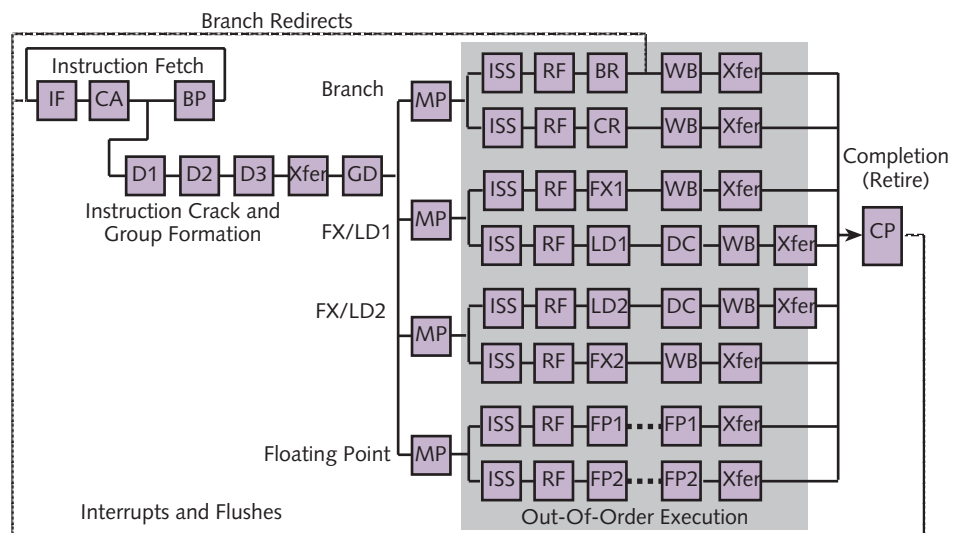

Figure 1. At MPF2000, Charles Moore of IBM described the 12-deep and 8-wide Power4 processor pipeline. The area in gray is the out-of-order execution core.
As Figure 1 shows, Power4 has eight execution pipelines: two for loads/stores, two for integer execution, one for branch, one for condition register operations, and two for floating point. Before issuing the bundle to the execution pipeline, the mapper (MP) stage identifies and allocates the required resources and determines register dependencies. When the bundle is moved to the execution pipelines, the instructions are held in queues and issued in the issue-cycle stage (ISS). The out-of-order execution core uses data-flow concepts, such as noninterlocking pipelines and self-initiated issue logic, and instructions are bundled and scheduled (and retired) as bundles to minimize control logic. Within the inner core, issue queues feed the eight execution pipelines. The CR unit is responsible for performing logical operations on the condition register. With the numerous execution pipelines, a large register rename pool, and deep pipelines, the Power4 is capable of supporting more than 200 instructions in flight. The inner core of the processor supports out-of-order execution, but instruction bundles are retired as a unit. Bundles are retired (completed) in order (CP stage), and all instructions in the bundle must have completed execution before the bundle is retired. The Power4 pipeline has 12 stages, from instruction fetch to write-back, for an integer operation.